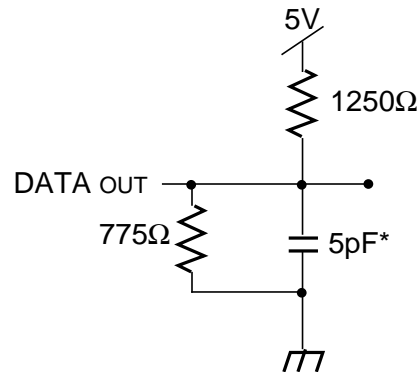

Figure 2. Output Test Load
1. Transition is measured ±500mV from Low or High-impedance voltage Output Test Load (Figure 2).
1. Transition is measured  $\pm 500\text{mV}$  from Low or High-impedance voltage with Output Test Load (Figure 2). This parameter is guaranteed by device characterization but is not production tested.
7. This parameter is determined by device characterization, but is not production tested. Transition is measured +/- 500mV from steady state with the Output Test Load (Figure 2).